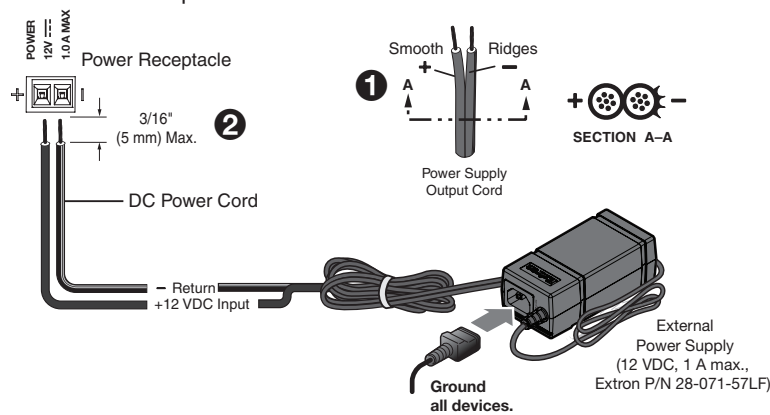

Figure 3. Connecting power to the RCP 101 D
- To power the unit with a power supply, connect the provided power supply to this input. Ensure that the polarity of the wires is correct (figure 3, **A**) and the wires are stripped correctly (**B**).